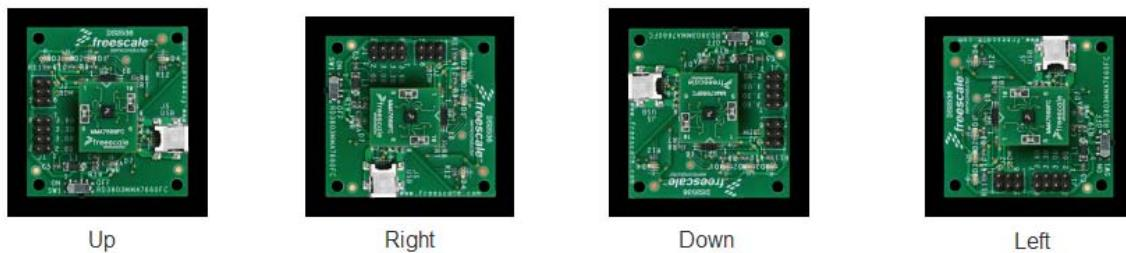

Figure 14. Board Orientations for Up, Down, Left, and Right
1. Hold the board in the Up position and rotate until in the Right position (Figure 14). The graphic on the right will change from Landscape to Portrait.
2. Hold the device in the Right position and transition to the Down position (Figure 14). The graphic on the right will change from Portrait to Landscape.
There is an LED on the top left corner for shake detection. Shake detection is defined as an acceleration surpassing the $\pm 1.3g$. When this occurs the LED will light and Shake will appear in the Shake box and the image will change to the next image in the album. If the board is held in an Up/Down direction, the picture will be displayed in Landscape format, as where its held Left/Right orientation, then Portrait format will be displayed. (Figure 14)